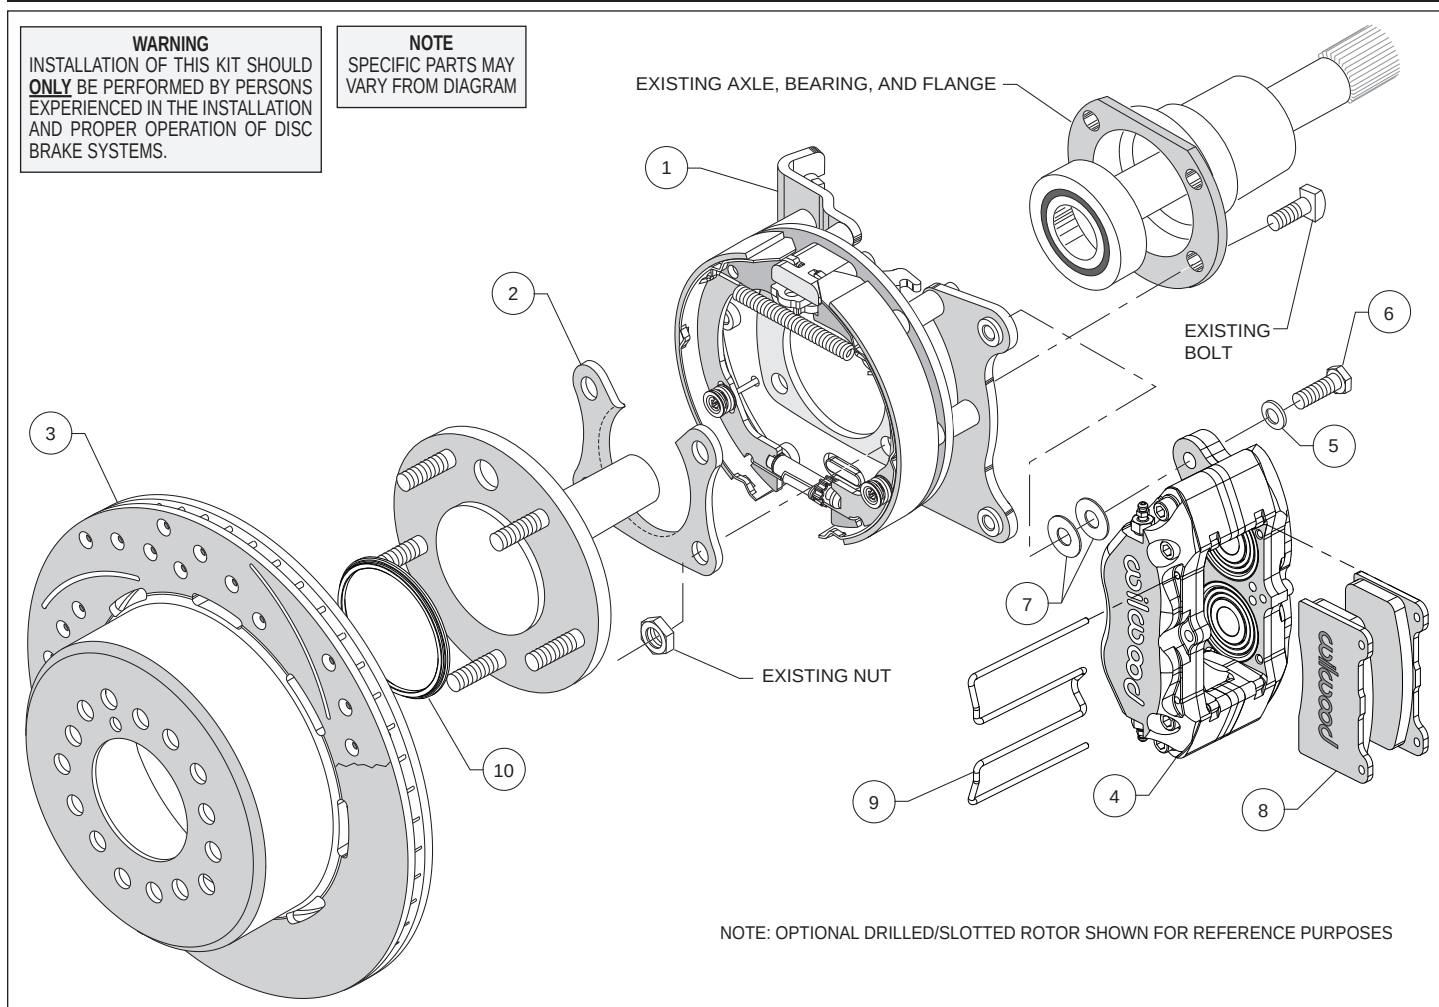
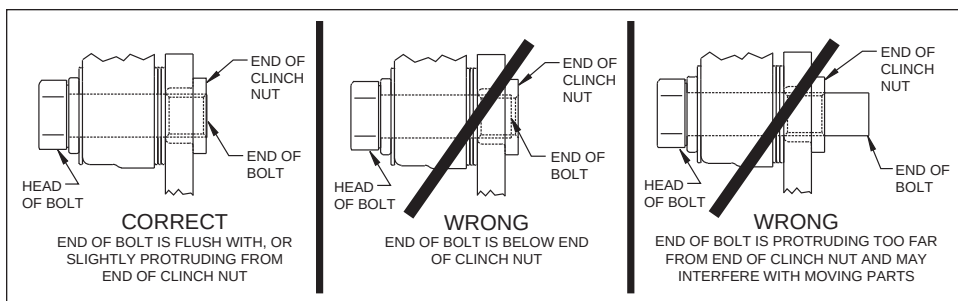

Figure 1. Typical Installation Configuration
Figure 5. Clinch Nut Engagement Diagram
Assembly Instructions (numbers in parenthesis refer to the parts list, and Figure 1 on the preceding pages): **CAUTION:** All mounting bolts must fully engage clinch nuts. Be sure to check that all bolts are either flush or protruding through flanged side of clinch nut after shimming, Figure 5.
- Orient the bracket assembly (1) as shown in Figure 1, and Photo 1, and slide it onto the axle. Insert the axle and bracket into the axle housing. Ensure that the bracket assembly backing plate fits flush against the axle housing flange.
- Install the bearing retainer (2) with the opening pointing upward and the lip facing inward (toward the bearing), as shown in Figures 1 and 4, and Photo 2. Secure retainer and bracket assembly to the axle housing flange using the Original Equipment Manufacturer (OEM) bolts and nuts, Figure 1. Apply red *Loctite*® 271 to the OEM bolt threads and torque to OEM specifications.
•Slide the rotor registration adapter (10) onto the axle register on the axle flange with the smaller O.D. facing toward the rotor/hat (3), Photo 3. Align the correct hole pattern in the rotor/hat with the stud pattern on the axle flange and slide into place, Figure 1 and Photo 4. **NOTE:** The rotor/hat must fit flush against the axle flange or excessive rotor run out may result. Install three lug nuts (finger tight) to keep the rotor/hat assembly in place while continuing with the installation. **NOTE:** Some OEM and after market axles come with stud sizes larger than 0.50" diameter. Verify stud size and have a qualified machine shop drill the bolt circle of the hat/rotor to the correct stud size, if necessary.
•**NOTE:** Please reference the caution statement at the beginning of the assembly instructions. Mount the caliper (4) onto the caliper mounting bracket (1) using bolts (6) and washers (5), as shown in Figure 1. Initially place two .035" thick shims (7) on each bolt between the caliper and the bracket, Photo 5. Temporarily tighten the mounting bolts and view the rotor (3) through the top opening of the caliper. The rotor should be centered in the caliper, Photo 6. If not, adjust by adding or subtracting shims between the bracket and the caliper. Always use the same amount of shims on each of the two mounting bolts. **NOTE:** The end of each bolt must be flush with or slightly protruding from the head of the clinch nut, as shown in Figure 5. If necessary place spare shims between washer (5) and caliper mounting ear to achieve the proper clinch nut engagement. Once the caliper alignment and clinch nut engagement are correct, remove the bolts one at a time, apply red Loctite® 271 to bolt threads, and torque to 40 ft-lb.